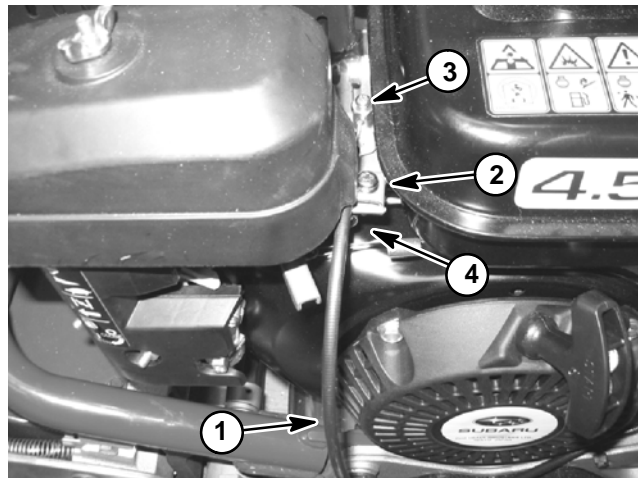

Figure 4
2. Remove throttle cable from the engine governor linkage (Fig. 4):
3. Install cable to the engine governor linkage as follows (Fig. 4):